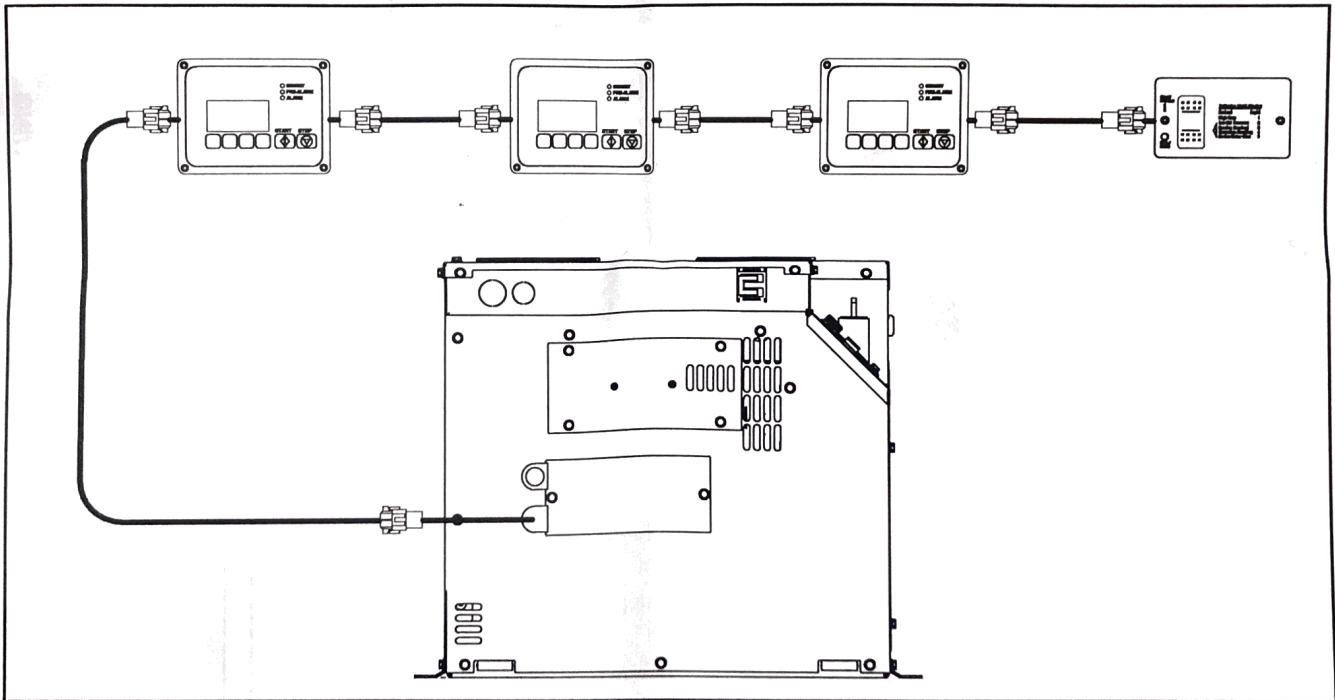

FIGURE 4. TYPICAL CONNECTION ARRANGEMENT OF DIGITAL DISPLAYS AND REMOTE CONTROL SWITCHES
Up to three (3) *e-Series Digital Displays* may be connected, along with one or more Start-Stop switches. Figure 4 illustrates an arrangement of connections for remote control.